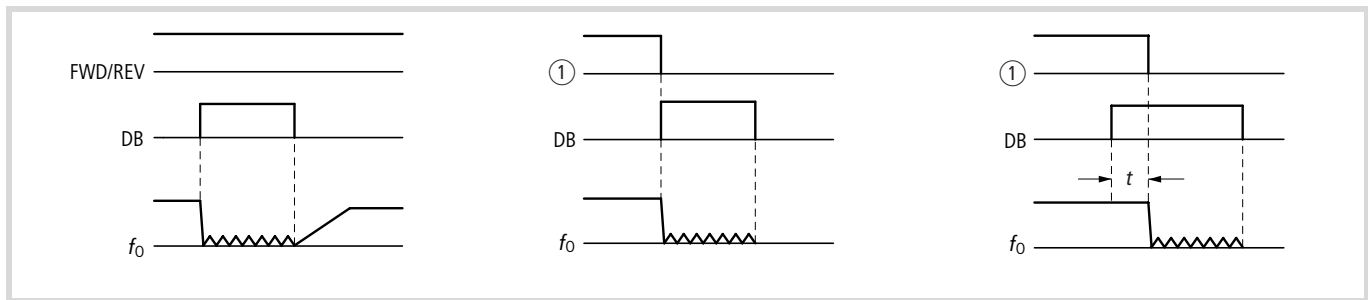

Figure 77: Function chart for DB (DC braking)
① Start signal through keypad
- ▶ In PNU A053, enter a delay time t (→ fig. 77) from 0 to 5.0 s, which is to expire before DC braking takes effect after activation of the DB input.